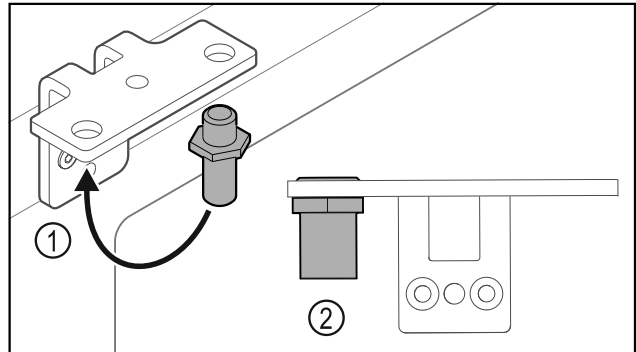

Fig. 24
- Put the pin back into the hinge Fig. 24 (1).
- Tighten the pin Fig. 24 (2) to a **torque of 12 Nm**.